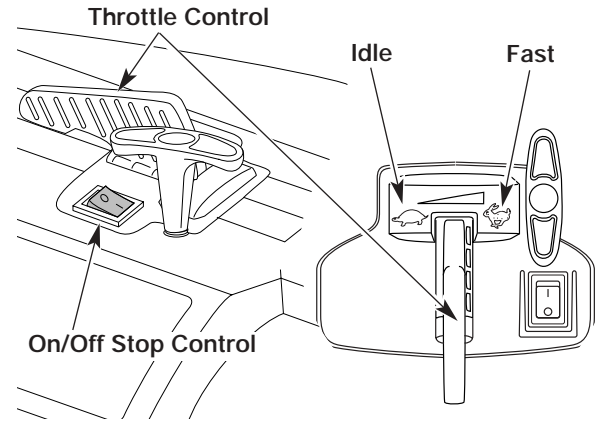
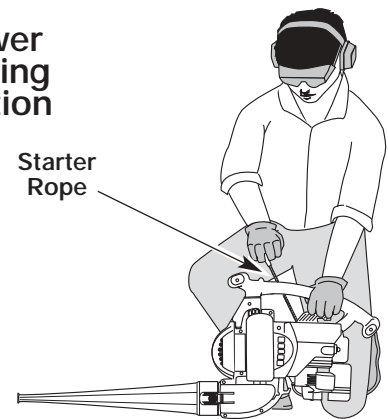
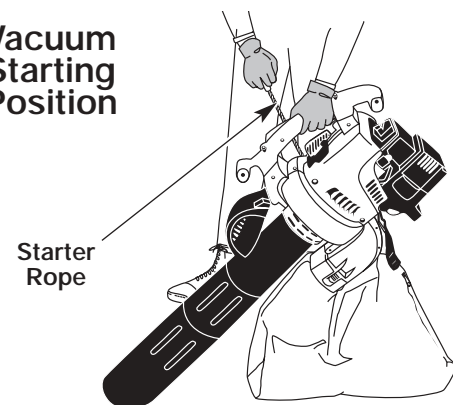

Fig. 10
Fig. 12
Fig. 13
WARNING: Avoid accidental starting. Make sure you are in the starting position when pulling the starter rope (Fig. 12 and 13). To avoid serious injury, the operator and unit must be in a stable position while starting.
4. Place the unit in the starting position (Fig. 12 as a blower, Fig. 13 as a vacuum). Move the throttle control to the fast position (☛) (Fig. 10).